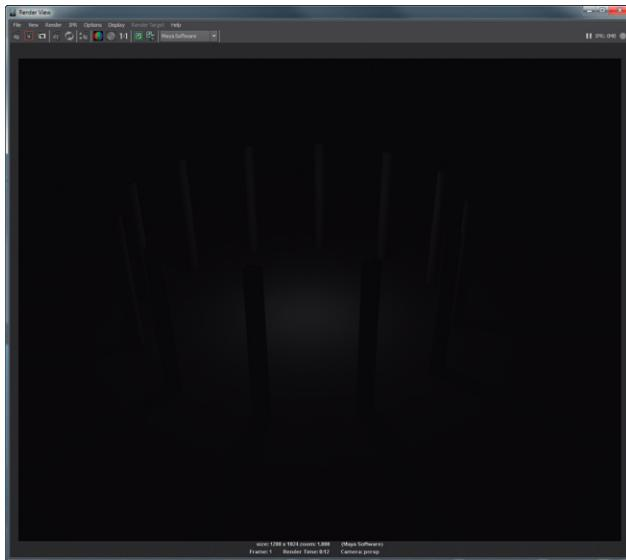

FIG 7.8 Rendering with Decay Rate of Linear.
Step 7: Activate a Linear Decay Rate for the instrument. This is still done in the Attribute Editor up near the top in the Point Light Attribute area. Render (Fig. 7.8).